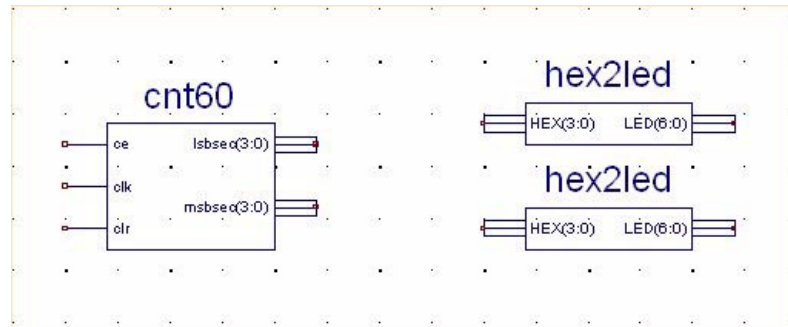

Figure 3-32: Placing the HEX2LED Component
3. Select HEX2LED, and add two instances of this symbol to the Watch schematic, as shown in Figure 3-32. You will connect the entire schematic later in the tutorial.